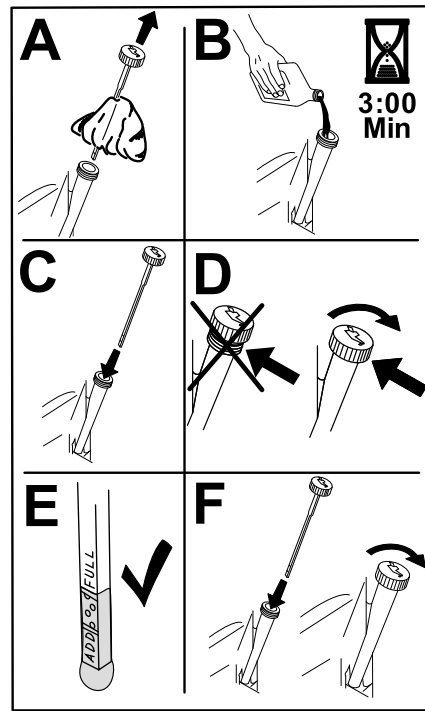

Figure 44
5. Slowly pour approximately 80% of the specified oil into the filler tube and slowly add the additional oil to bring it to the Full mark (Figure 44).